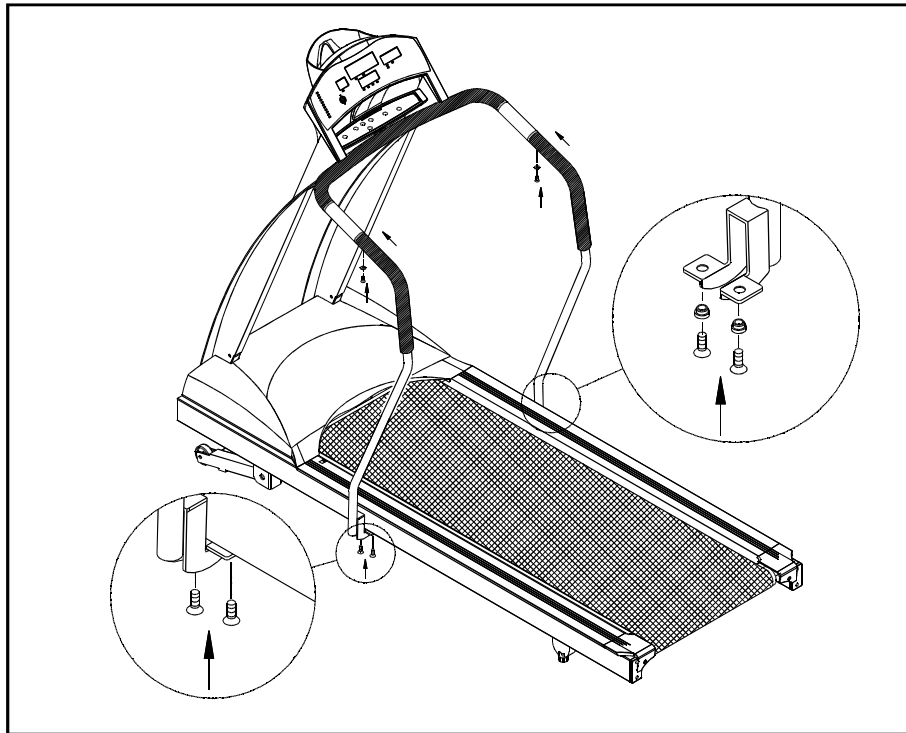

Fig.7
9. Insert the two handrails into the handlebars and then fasten the screws provided. Lastly secure the handrail clamp by fastening the screws (see Fig. 7).
Please note: The screws to the handrail clamp (Fig.7) are specially provided by manufacturer. Do not attempt to substitute any other screws. Any questions, please contact your dealer.